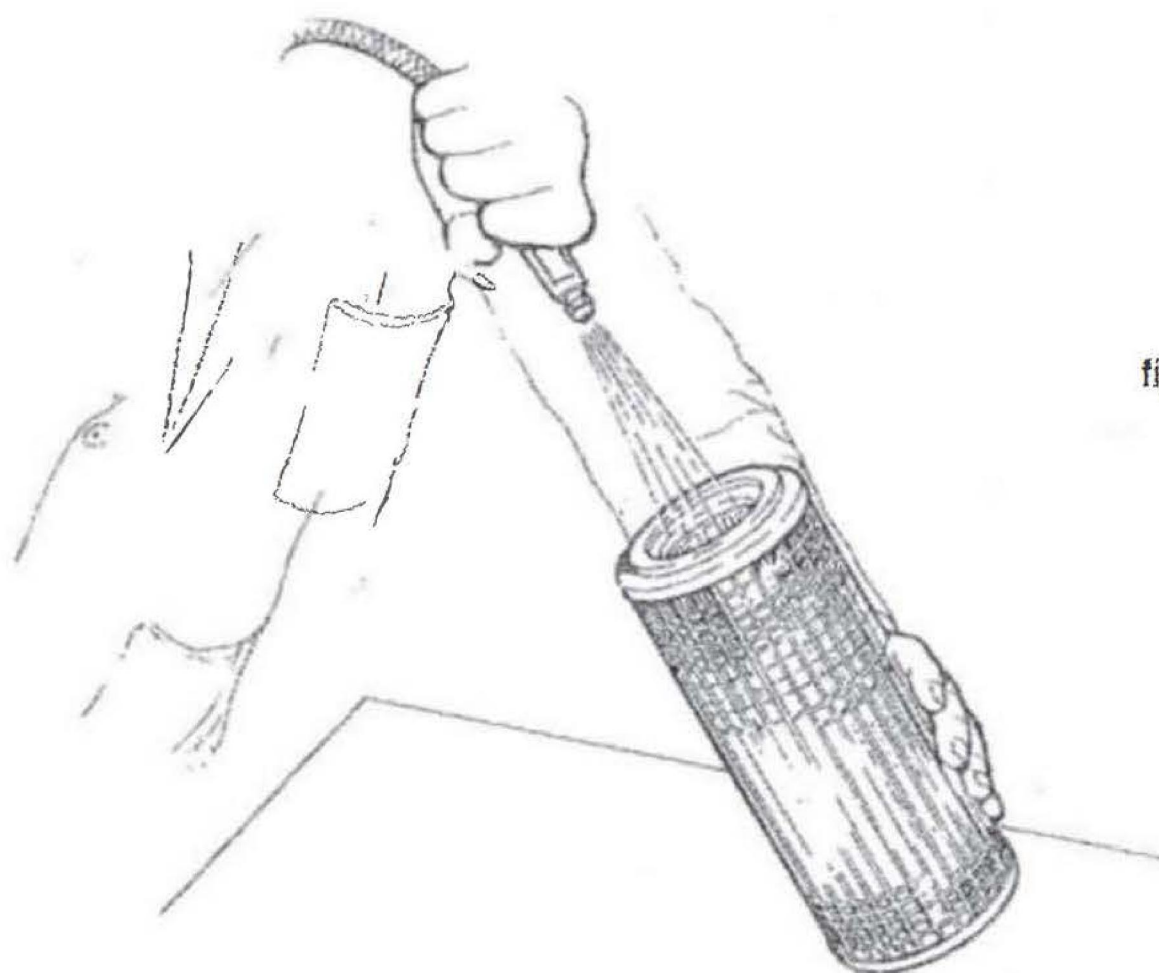

fig 55
- The quickest and most effective way of cleaning away dry dust is to use clean, dry compressed air at not more than (100 lbf/in^2) (figure 55) and keeping the air line at least 250mm (10 inches) away from the element, blow the element clean from the inside. **Never use the tractor exhaust gases**, these will permanently damage the filter.